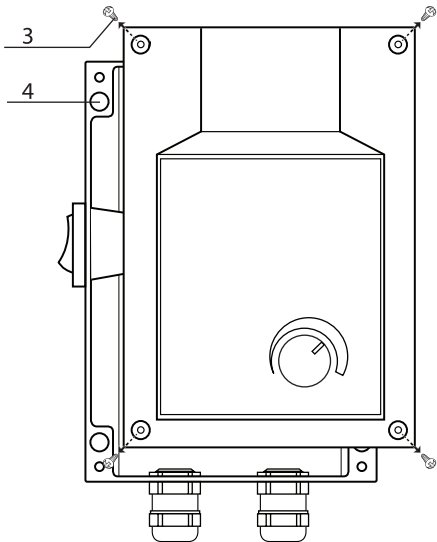

Fig.2
- Remove the front panel by unscrewing self-tapping screws **3** (see Fig. 2);
- Fasten the controller to the mounting surface using mounting holes **4** (see Fig. 2) in the rear wall of the unit (see Fig. 2);